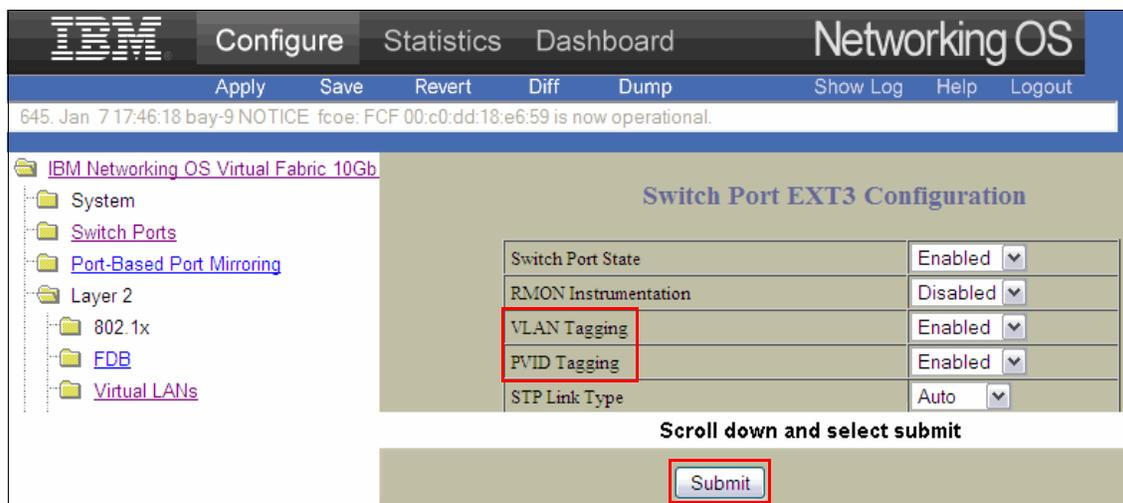

Figure 10-84 Switch Port Configuration pane
13. Enable tags and PVID on bridge ports (Figure 10-84):